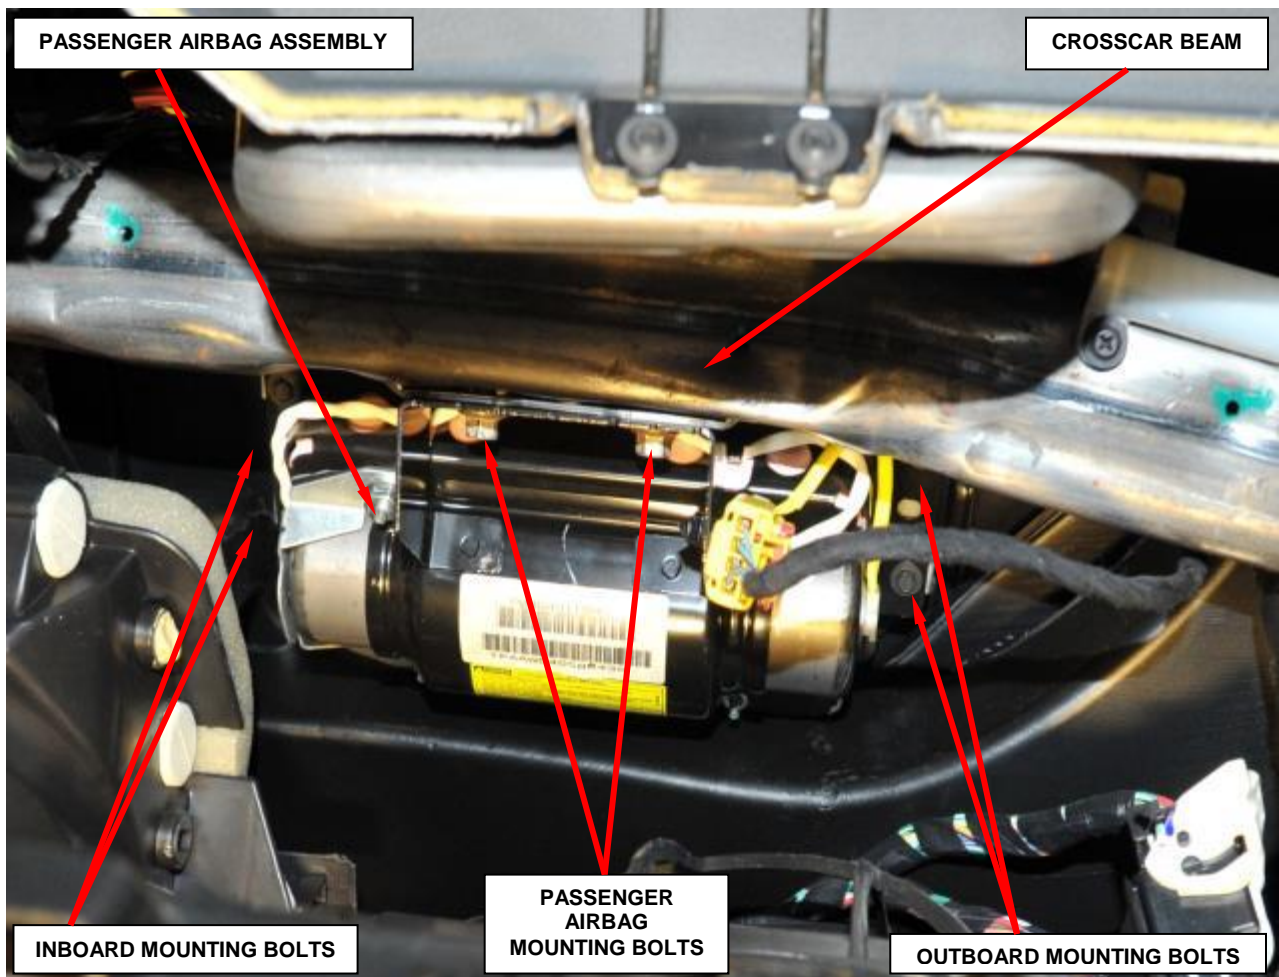

Figure 34 – Passenger Airbag Mounting Locations
5. Remove and save the two inboard mounting bolts to the passenger airbag assembly just below the distribution duct and to the left of the distribution housing (Figure 34).
6. Remove and save the two outboard mounting bolts to the passenger airbag assembly just below the distribution duct (Figure 34).
7. Remove and save the two passenger airbag assembly mounting bolts to the crosscar beam (Figure 34).